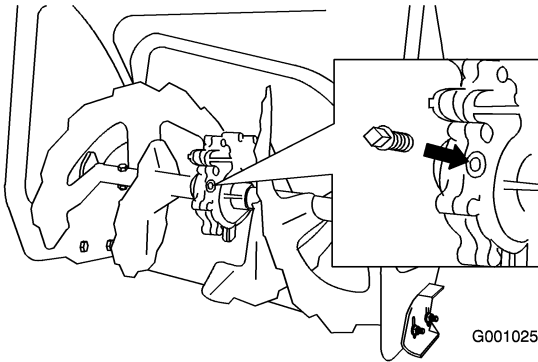

Figure 42
2. Clean the area around the pipe plug (Figure 42).